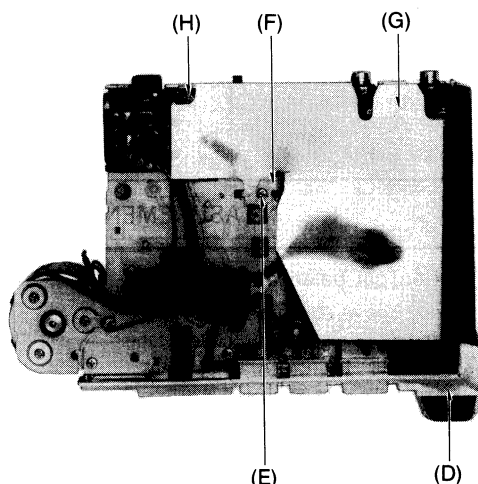

Fig. 3
<p>Head azimuth adjustment</p> <p>Condition:</p> <ul style="list-style-type: none"> * Playback mode <p>Equipment:</p> <ul style="list-style-type: none"> * VTVM * Oscilloscope * Test tape (azimuth) ... QZZCFM 	<p>L-CH/R-CH output balance adjustment</p> <ol style="list-style-type: none"> 1. Make connections as shown in fig. 1 and 2. 2. Playback the 8kHz signal from the test tape (QZZCFM). Adjust screw (A) in fig. 3 for maximum output L-CH and R-CH levels. When the output levels of L-CH and R-CH are not at maximum at the same time, readjust as follows. 3. Turn the screw shown in fig. 3 to find angles A and C (points where peak output levels for left and right channels are obtained). Then, locate the angle B between angles A and C, i.e., a point where L-CH and R-CH output levels come together at maximum. (Refer to figs. 3 and 4.)   <p>Fig. 1</p>  <p>Fig. 2</p> <p>L-CH/R-CH phase adjustment</p> <ol style="list-style-type: none"> 4. Make connections as shown in fig. 2 and 5. 5. Playback the 8kHz signal from the test tape (QZZCFM). Adjust screw (A) shown in fig. 3 so that pointers of the two VTVMs swing to maximum and a waveform as illustrated in fig. 6 is obtained on the oscilloscope.  <p>Fig. 4</p>  <p>Fig. 5</p>  <p>Fig. 6</p>